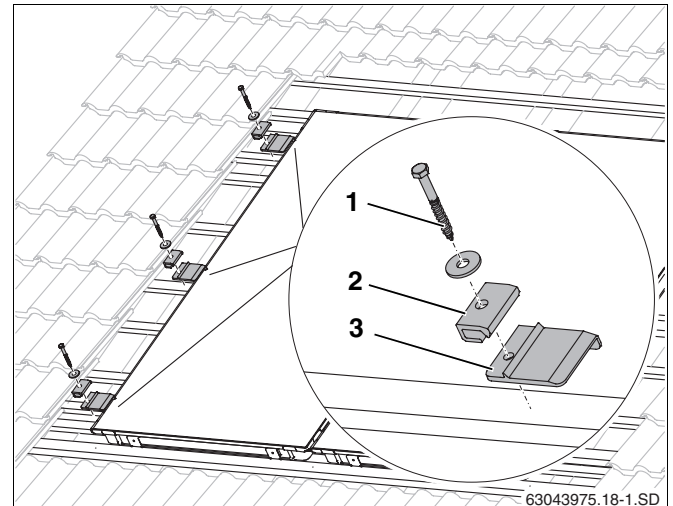

Fig. 30 Fitting the left-hand clamps
- ▶ Lift left-hand collector slightly and, on the 2nd and 3rd additional battens, as well as halfway along the collector on a free batten, push the left-hand pack plates (Fig. 30, **Item 3**) under the collector until the roof pushes against the lower edge of the collector.
- ▶ For the screw (Fig. 30, **Item 1**) drill a pilot hole with a 4 mm drill.
- ▶ Fasten the single-sided clamps (Fig. 30, **Item 2**) with a 6x40 screw (Fig. 30, **Item 1**) and washer (use size 10 spanner).